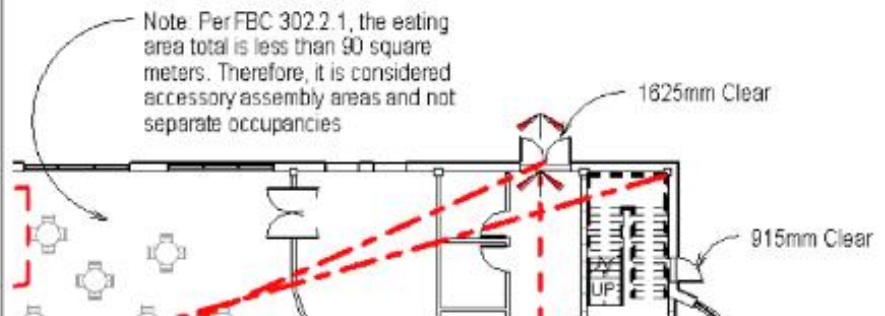

Figure 14–41
9. Using the **3mm Narrow Italic** text type, add text to each diagonal distance line, as shown in Figure 14–42. Enter the text first and then click in empty space to exit the text box.